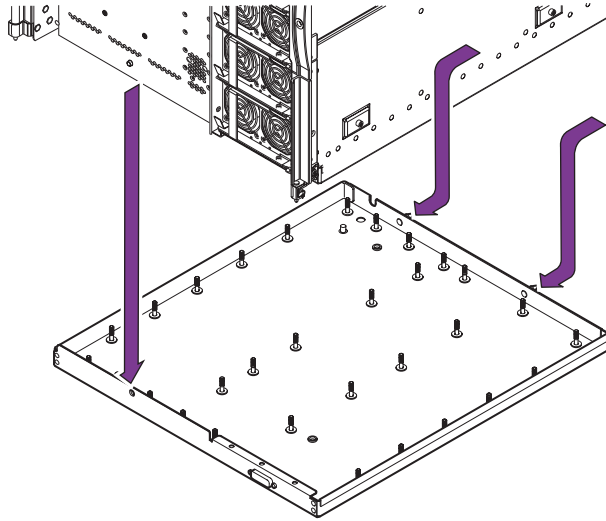

FIGURE 11-4 Removing the Baseplane
19. Remove the baseplane and place it on an ESD mat (FIGURE 11-4).